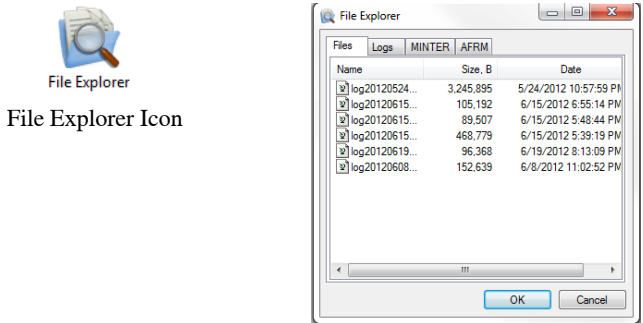

Figure 5-1. File Explorer Dialog Window
- Click on the **File Explorer** icon in the main window. The **File Explorer** dialog box displays all logged raw data files (Figure 5-1).